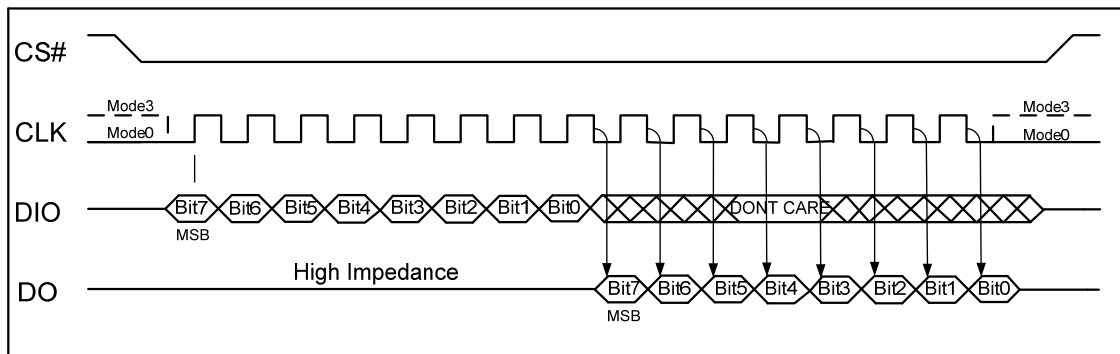

Figure 5, SPI Modes
The ZD25D80 are accessed through an SPI compatible bus consisting of four signals: Serial Clock (CLK), Chip Select (CS#), Serial Data Input / Output (DIO) and Serial Data Output (DO). Both SPI bus operation Modes 0 (0, 0) and 3 (1, 1) are supported. The primary difference between Mode 0 and Mode 3, as shown in Figure 5, concerns the normal state of the CLK signal when the SPI bus master is in standby and data is not being transferred to the Serial Flash. For Mode 0 the CLK is normally low. For Mode 3 the CLK is normally high. In either case data input on the DIO pin is sampled on the rising edge of the CLK. Data on the DO and DIO pins are clocked out on the falling edge of CLK.